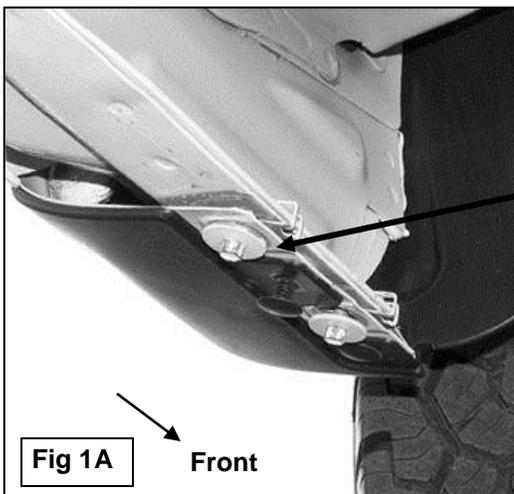

Fig 1A
- Starting at the front of the driver side of the vehicle, remove the two small hex bolts and the metal clips holding the bottom of the fender to the body, **(Figure 1A)**. **NOTE:** Use a small flat screwdriver to spread the clip apart for easy removal. Due to body panel misalignment from the factory, it may be necessary to open these holes slightly with a 3/8" drill bit, **(Figure 1B)**.
- Select the driver side front Mounting Bracket. Line up the (2) holes in the pinch weld with the holes in the front Mounting Bracket. Insert (2) 8mm x 30mm Hex Bolts with (2) 8mm x 24mm OD x 2mm Large Flat Washers up from below and secure with (2) 8mm x 16mm OD x 1.6mm